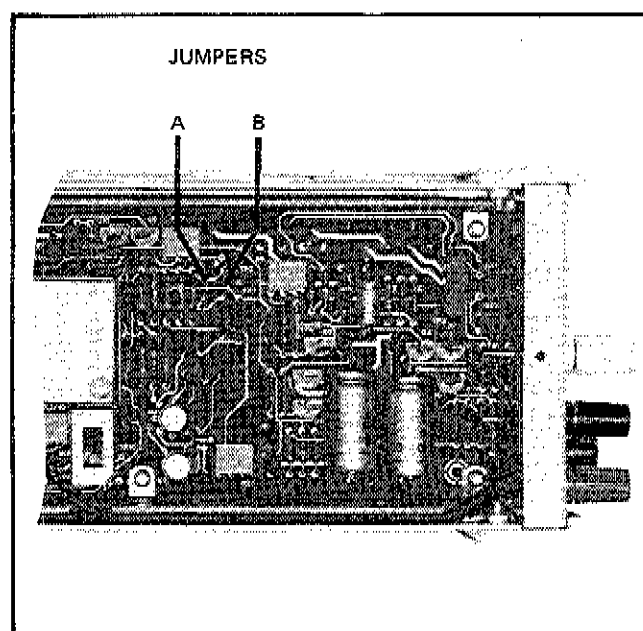

Figure 4-8. V_{REF} JUMPER LOCATIONS
- Locate jumpers A and B using Figure 4-8 and reconnect any cut jumpers.